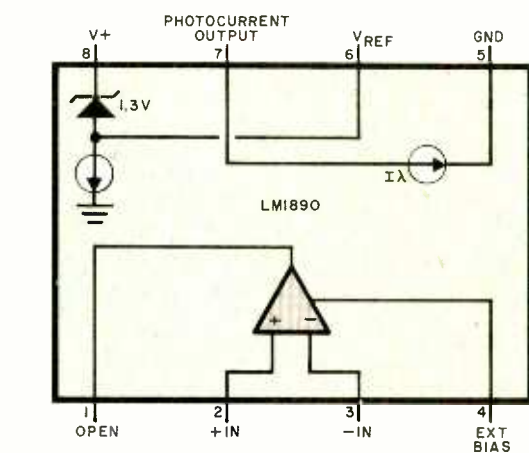

Fig. 2. Pinout guide and internal schematic of the LM1890 light-to-current converter used in sundial.
**Circuit Operation.** The "heart" of the electronic sundial is the LM1890 Light-to-Current Converter shown in Fig. 2. This new IC is designed as a general-purpose building block for use in both visible light and infrared applications (its output peaks at 700 nm). The device includes a built-in light sensor, and provision is made to add fixed, light-independent comparator bias. The chip is monolithic, linear over several decades of light level, and can be operated with supply voltages down to 2.5 volts. The case is fabricated from clear plastic and has a recess for an optical filter. An internal zener diode regulator adds to the stability.